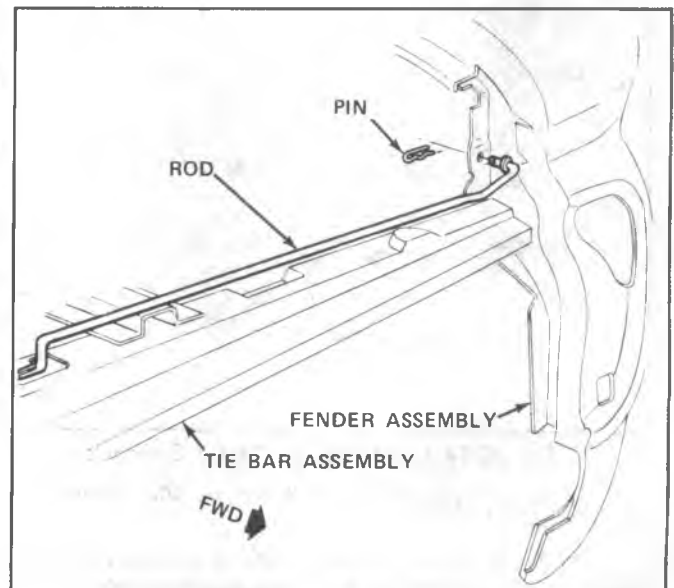

Fig. 2C-10--Hood Rod Support - G Model
**GRILLE MOLDING - CK, G MODELS (FIG. 2C-14)**